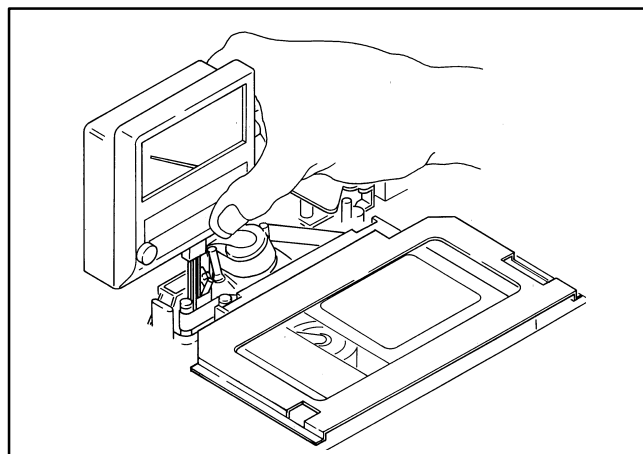

Figure 3-8-2
2. Insert the tension meter to between S3 post and S4 post as shown in figure 3-8-2.